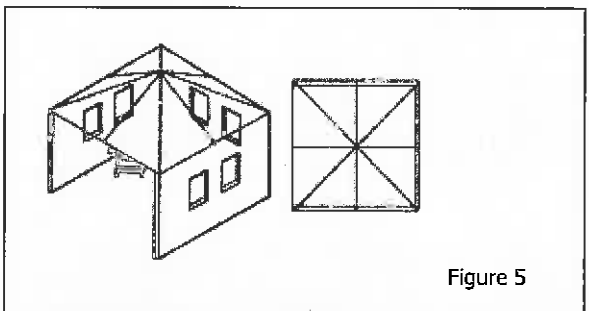

Figure 5
b). 30% or more in total of the remaining wall area is open and unrestricted. (figure 5)